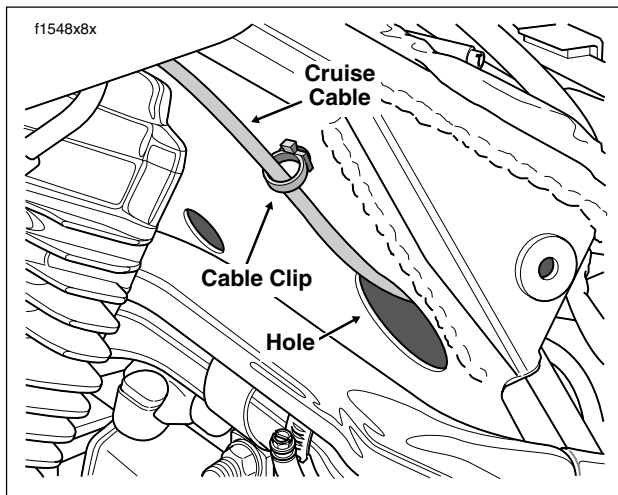

Figure 8-131. Cruise Cable Routing (Left Side)
8. Pull anchored cable clip from hole in frame crossmember. See Figure 8-131.
4. Feed cruise cable and connector through hole in frame crossmember. See Figure 8-131.
8. Capture cruise cable in cable clip and anchor in hole of frame crossmember. See Figure 8-131.